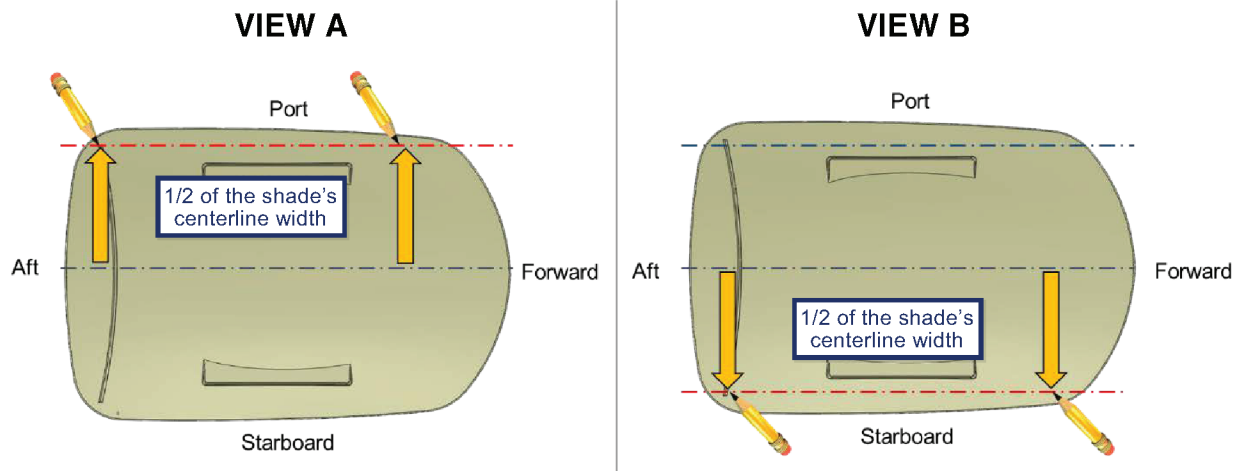

Fig.4
- B. Take 1/2 of the width of the shade specification drawing dimension and measure out from the hardtop centerline to the port side by that amount (Fig.4, VIEW A).
NOTE: For example, if the shade centerline width is 80", measure 40" from the hardtop centerline to the port or starboard side (Fig.4, VIEWS A and B).